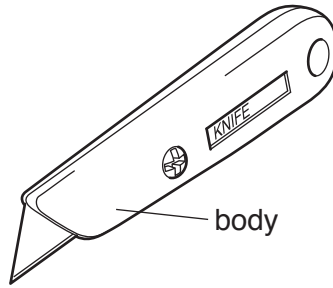

Fig. 6
- 9 Fig. 6 shows a modelling knife.